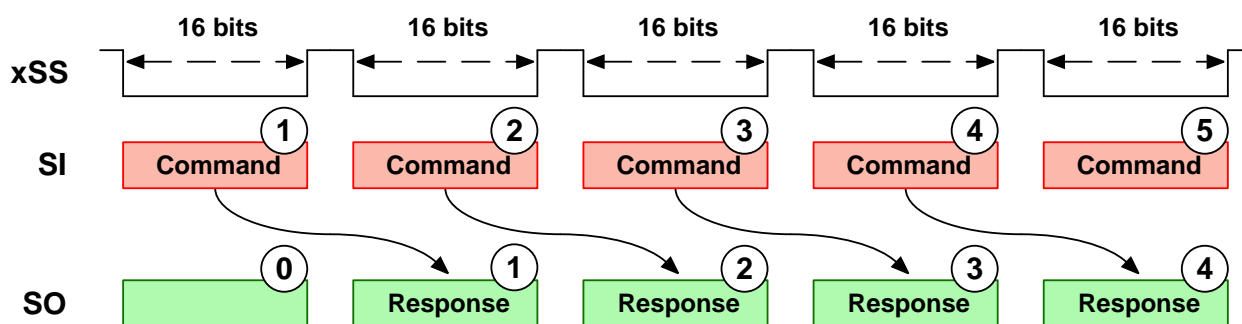

Figure 5: SPI overlapped packet structure
SPI communication uses an overlapped packet structure where the response to a command is returned while the next command is being sent. Figure 5 shows this for a single-device application (where the host controls a single iC-TW11 slave). See BUSSING MULTIPLE ICs on page 22 and CHAINING MULTIPLE ICs on page 23 for multiple device applications.
SPI command and response packets are always 16 bits long. The host initiates communication with the iC-TW11 by driving slave select (xSS) low and then clocking a 16-bit command (1) to the slave input, SI. The serial clock (SCLK) signal is not shown in Figure 5. The host drives xSS high at the end of the command packet and the iC-TW11 executes the command.